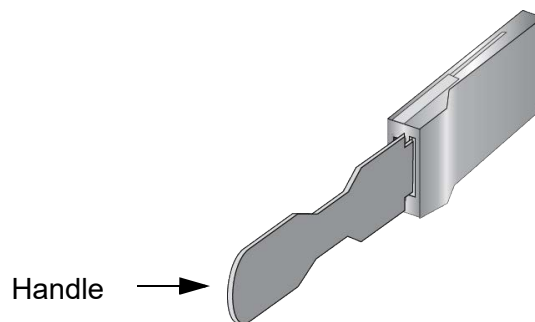

Figure 132. Handle on 100Gbps Transceivers for XEM2-1CQ Line Cards
- ❑ 100Gbps transceivers for XEM2-1CQ Line Cards have handles. Use the handles when installing or removing transceivers. An example is shown in Figure 132.